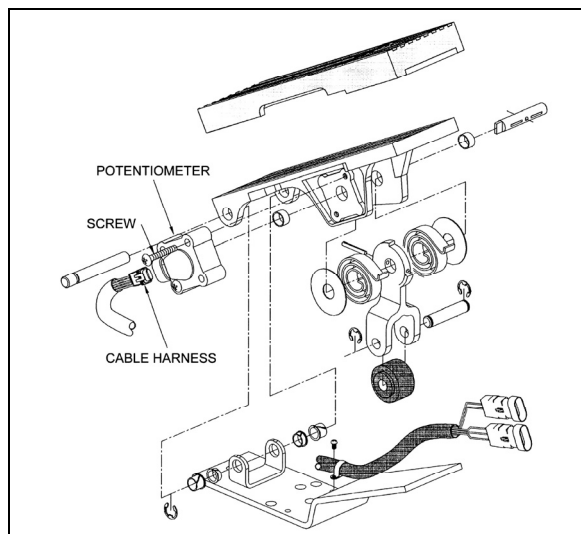

FIGURE 14: ELECTRONIC FOOT PEDAL ASSEMBLY 03035
3. Discard potentiometer (Fig. 14).
2. Position new potentiometer. Press potentiometer onto the potentiometer shaft, matching cutouts in shaft to drive tangs of potentiometer. Apply hand pressure until potentiometer has bottomed out in housing. Reinstall screws (Fig. 14) and tighten just enough to secure potentiometer lightly. Tighten screws to 10 - 20 Lbf-in (1.13 - 2.26 Nm).